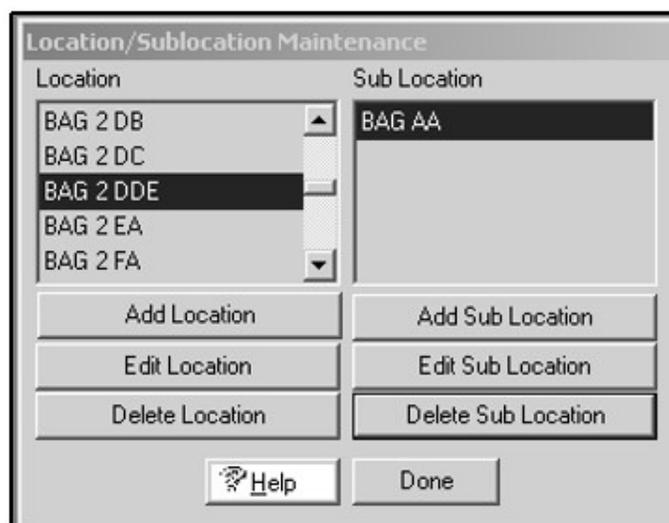

Figure 40. Location/Sub-location Maintenance Window
(1) AM Utilities, Inbox. The “Inbox” automatically opens upon accessing the AM module. It can also be viewed by selecting “Inbox” from the “Utilities” menu. The Inbox contains many pending actions that are either advisory in nature or require user action. DMLSS automatically removes some action items from pending actions upon processing while other advisory notices should be removed or deleted upon review and when no longer needed. A detailed list of pending actions and their recommended use is available in Enclosure 4.
(2) AM Utilities, Maintain Location. In the “Location/Sublocation Maintenance” window (Figure 40) users can view and maintain the list of locations and sub locations where assemblages are stored. Use this window to add, edit, or delete a location.